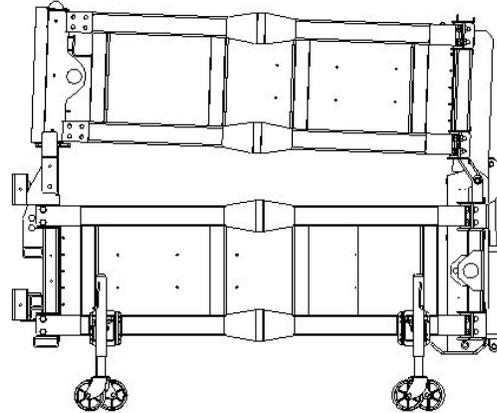

Figure 19
- B. Attach Jacks as shown in Figures 19 & 20